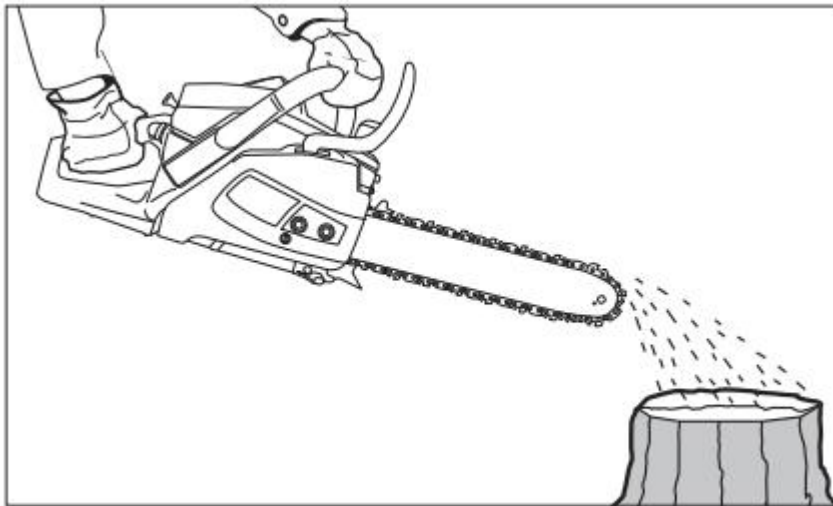

fig. 12
4. Before you start, check the oil supply: switch on the chainsaw and hold it over suitable bedding. If it is sufficiently lubricated, a light trail of dripping oil will form (fig. 12).